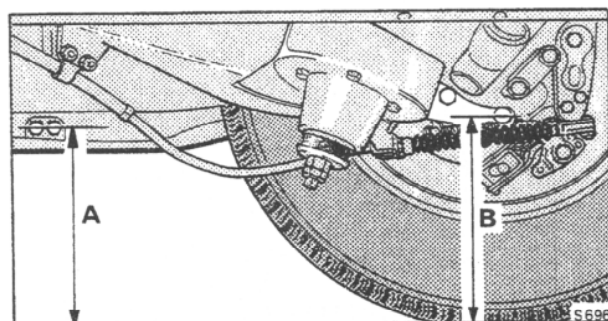

Fig. G29 Levelled height setting measurement positions
4. Check the levelled height by measuring the height 'A' (see Fig. G29) from the level surface on which the car stands, to the centre line of the rearmost bottom bolt which secures the forged bracket of the rear suspension crossmember to the body sill. Measure height 'B' from the level surface to the centre line of the rearmost bottom bolt which secures the rear hub assembly to the trailing arm. The difference between these two heights should be between 19,05 mm. and 25,4 mm. (0.750 in. and 1.0 in.). The maximum permissible difference in height between each side of the car being 4,76 mm. (0.187 in.).